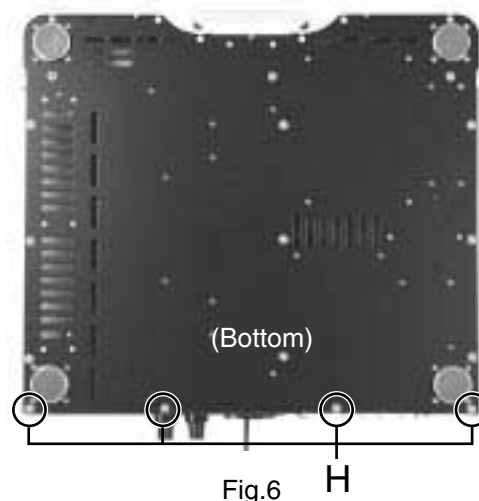

Fig.6
■ Removing the rear panel (See Fig.6 to 9)